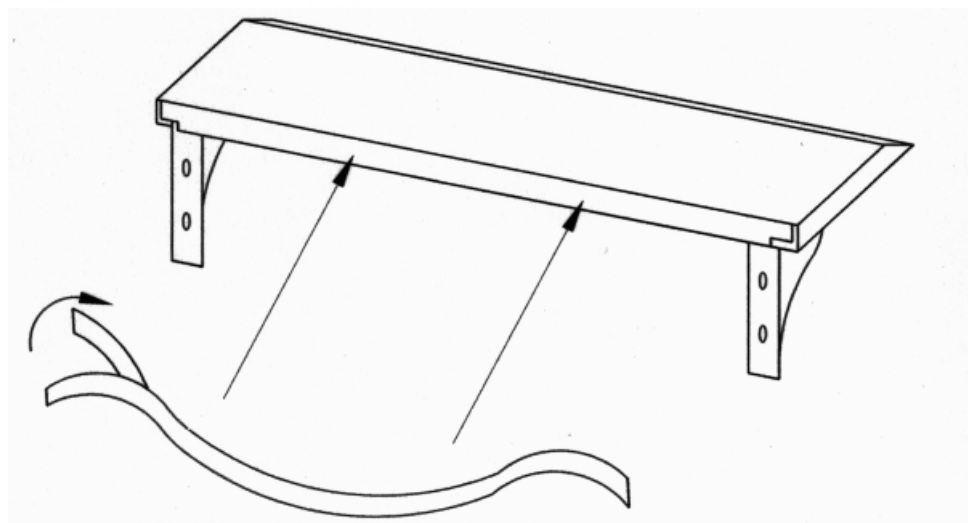

FIG.2
- 5 Peel off the back of the sealing strip, if necessary trimming to size, and attach to the back of the shelf as shown in fig. 2.